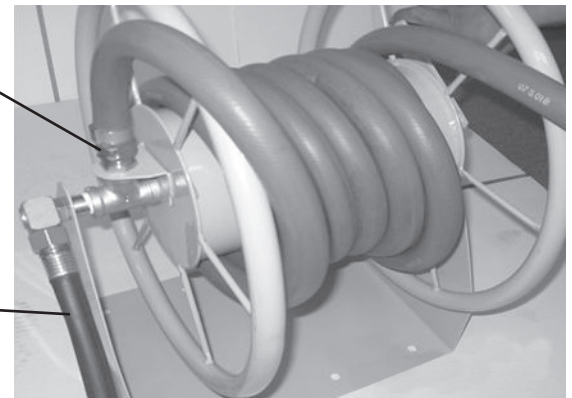

Figure 7
- Attach your garden hose. The reel is designed to hold up to 300 feet of 5/8" hose. Attach your hose to the Brass Adaptor as seen in figure 7.